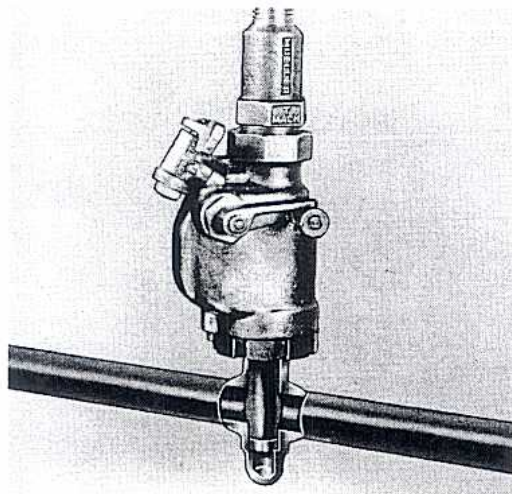

FIGURE 36
8. Turn feed sleeve **clockwise** a little at a time with a short pause after each turn. Continue to compress the shut-off tool in this manner until the line is stopped off. FIGURE 36. Boring bar should not rotate during this operation. The maximum amount of downward travel of the boring bar is shown below.